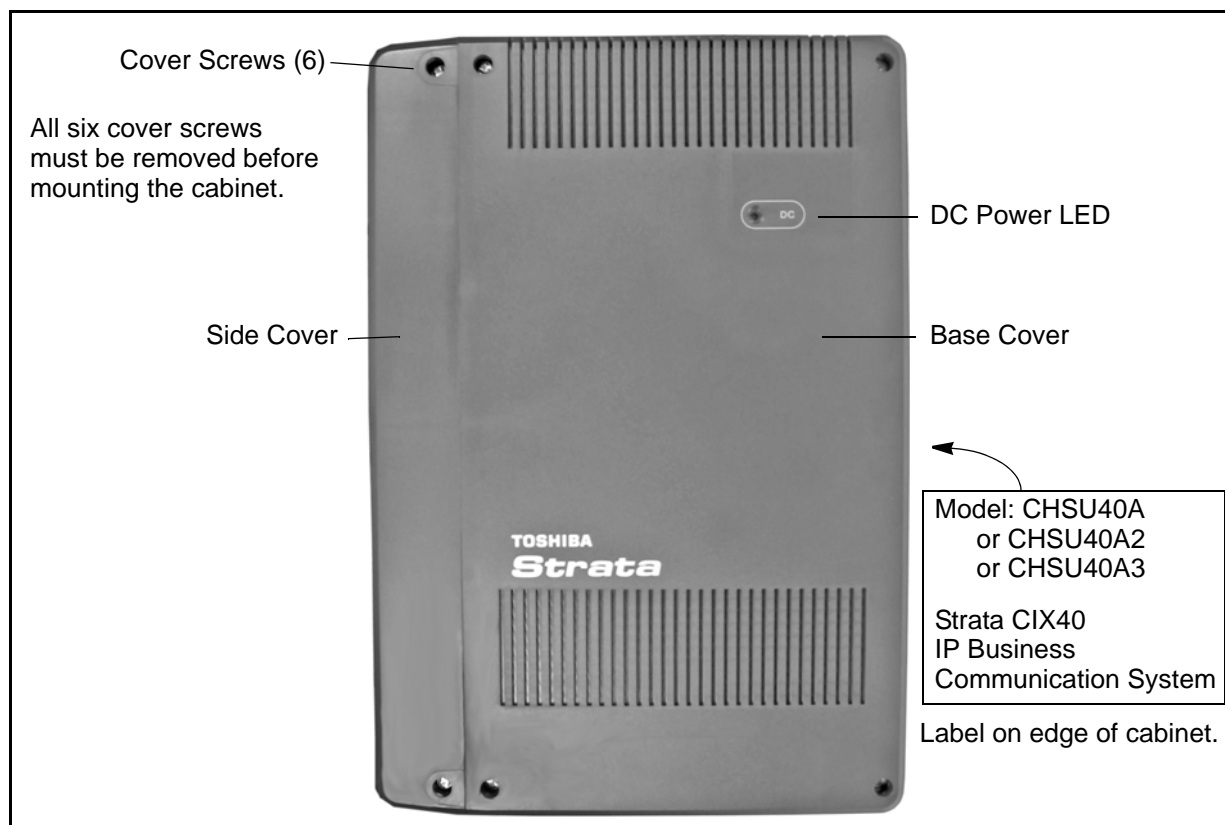

Figure 1-6 CIX40 Cabinet Exterior
2. Loosen the screws on the front cover and the side cover of the cabinet, remove the covers (see Figure 1-6).